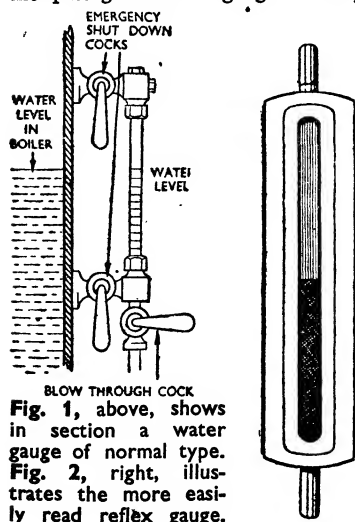

Fig. 1, above, shows in section a water gauge of normal type. Fig. 2, right, illustrates the more easily read reflex gauge.
**WATER GAUGE.** A glass tube, usually vertical or inclined and protected by a metal shield connected at its upper end to the steam space of a boiler and at its lower end to the water space, the purpose being to indicate the height of the water level in the boiler. A typical water gauge is shown in Fig. 1.